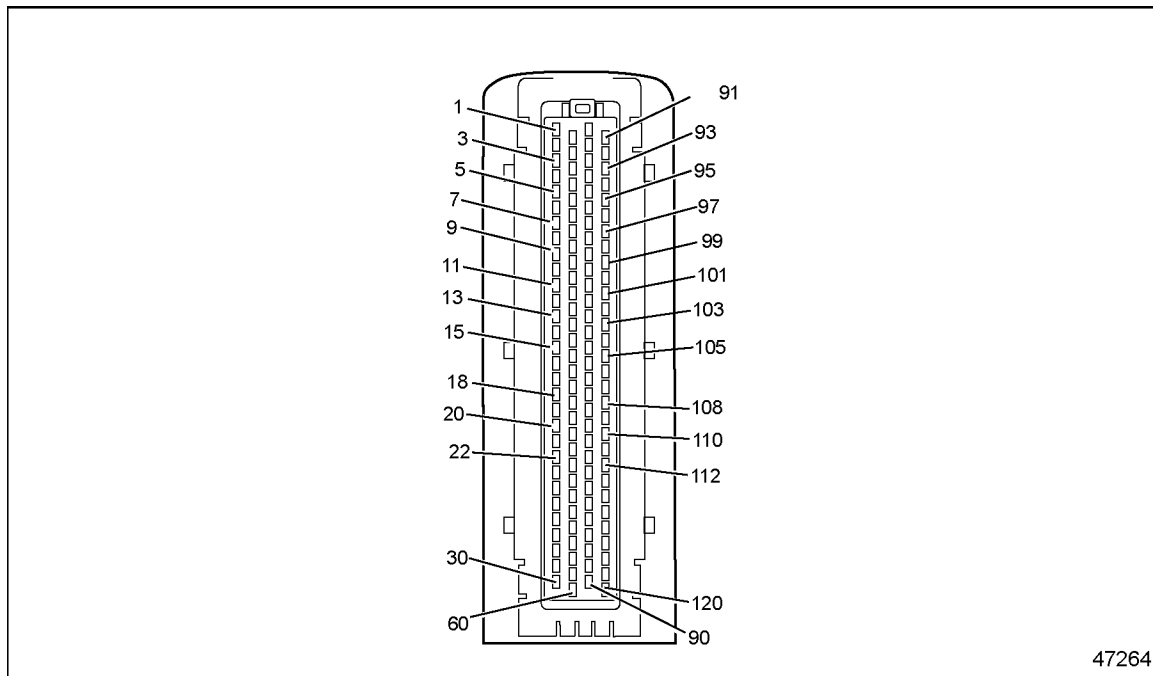

Figure 60-1 120-pin MCM Connector
7. Measure the resistance between pin 11 of the MCM 120-pin connector and pin 10 of the Front Injector Harness 12-pin connector. See Figure 60-1.
- [b] If the resistance is less than 3 Ω , repair the short to power between battery positive and pin 11 of the MCM 120-pin connector. See Figure 60-1. Refer to section 60.1.1.1.